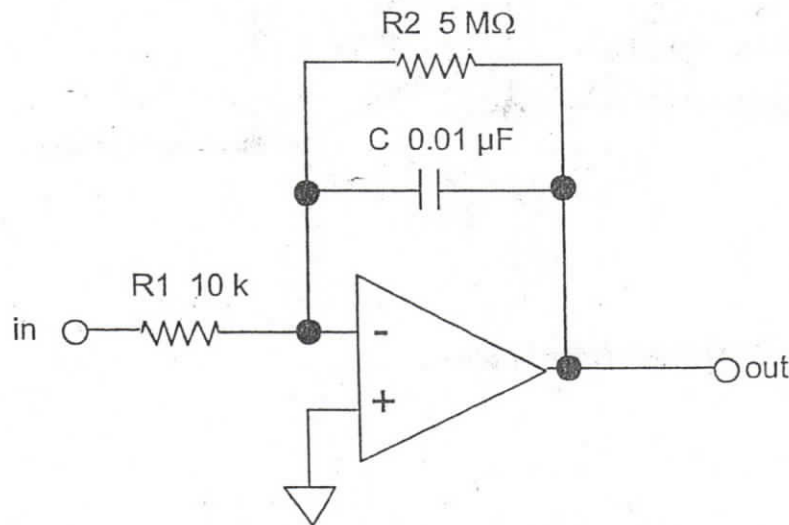

Figure 7-7 Op-Amp Integrator
- “ The circuit in Figure 7-7 is an integrator, which is also a low-pass filter with a time constant $= R_1 C$. Resistor R_2 provides DC feedback for stable biasing, since without it there would be feedback through the capacitor only, and that would not provide any DC feedback.